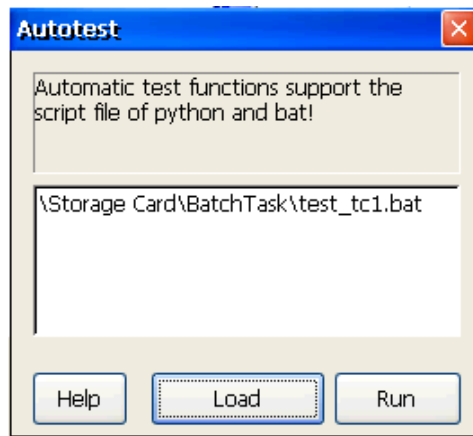

Figure 6.4.1 Auto Test
Step 1: Click “AutoTest” icon in the main interface to enter into auto test interface, as is shown in figure 6.4.1.